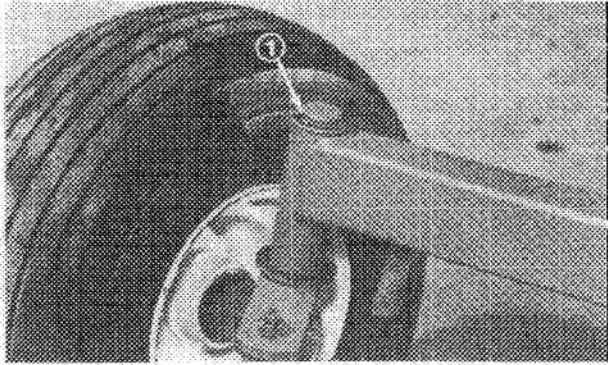

Figure 48
6. Remove cotter pin and slotted nut connecting tie rod end to spindle bracket (Fig. 48). Separate tie rod end from spindle bracket.
7. Remove snap ring and thrust washer holding spindle in axle tube (Fig. 48). Slide spindle and wheel assembly out of the axle tube to expose the bushings. Make sure to account for the thrust washer on bottom of axle tube.